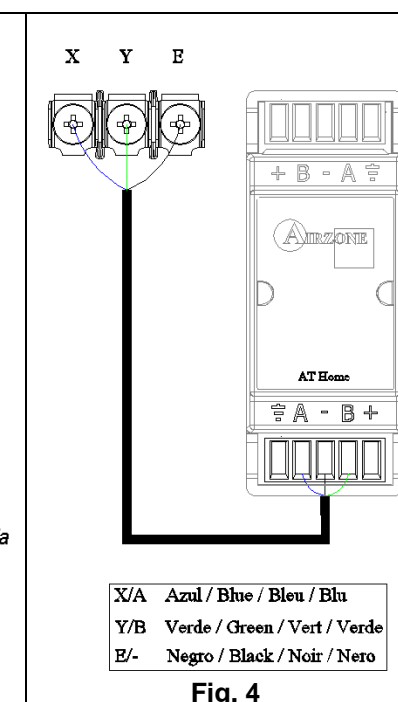

Fig. 4
- 3) Conecte (X, Y, 'E') de la unidad interior KAYSUN, con (A, B, '-') de la pasarela de comunicaciones AIRZONE (Fig. 4).
- 3) Connect the (X, Y, "E") of the KAYSUN indoor unit to the (A, B, "-") on the AIRZONE communication gateway, paying attention to polarity (Fig. 4).